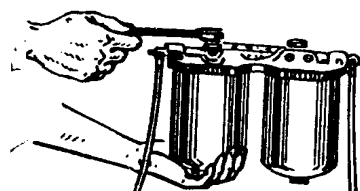

Figure 7
- Disconnect the fuel inlet of the fuel injection pump and plug the pump inlet with clean plastic cap. Loosen the centre bolt and remove the filter bowl (primary or secondary filter - Figure 7).